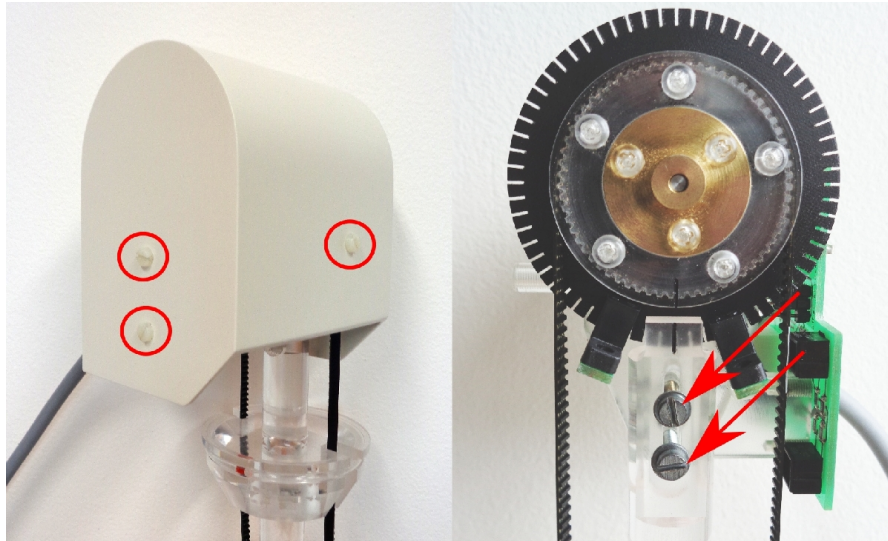

Figure 1: Left - white lid; Right - screws
- Unscrew three plastic screws on the lid of the rotator, marked by red circles in Figure 1. Be careful not to lose the screws or plastic washers. Pull the lid gently up to remove it.
- Loosen a little bit two screws (Figure 1, right side, marked by red arrow), but do not remove them.